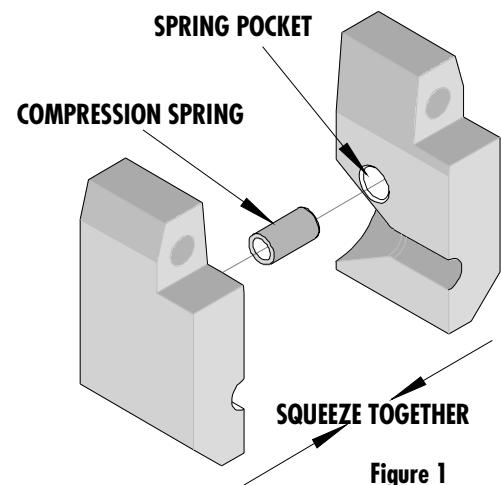

Figure 1
1. Place the compression spring in the pocket of each funnel half and squeeze the halves together. See Figure 1.